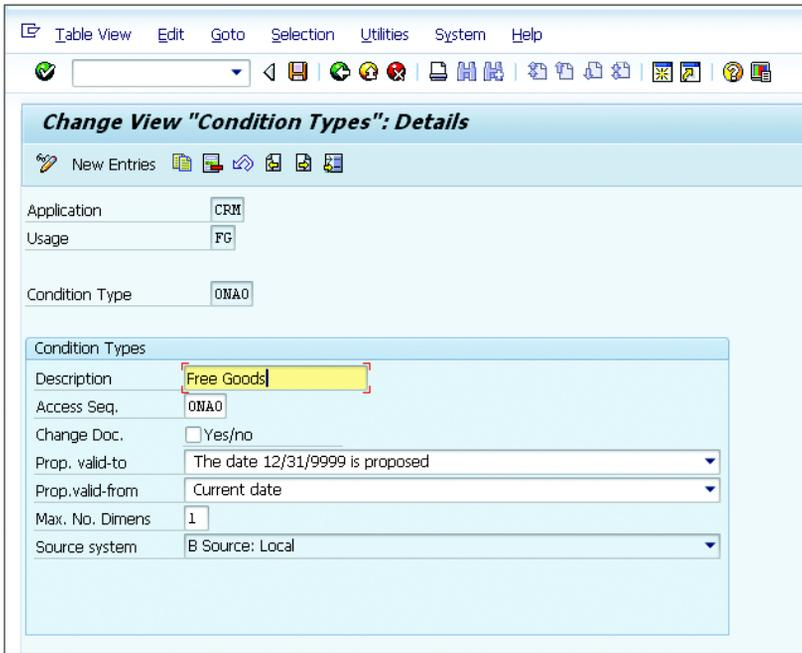

Figure 4.147 Condition Type for Free Goods
3. Create the condition type by navigating to CUSTOMER RELATIONSHIP MANAGEMENT • BASIC FUNCTIONS • FREE GOODS • SET UP FREE GOODS • CREATE CONDITION TYPES. Within this step, you create the condition type for free goods and assign the access sequence to the condition type. Figure 4.147 shows the condition type configuration for the free goods determination.